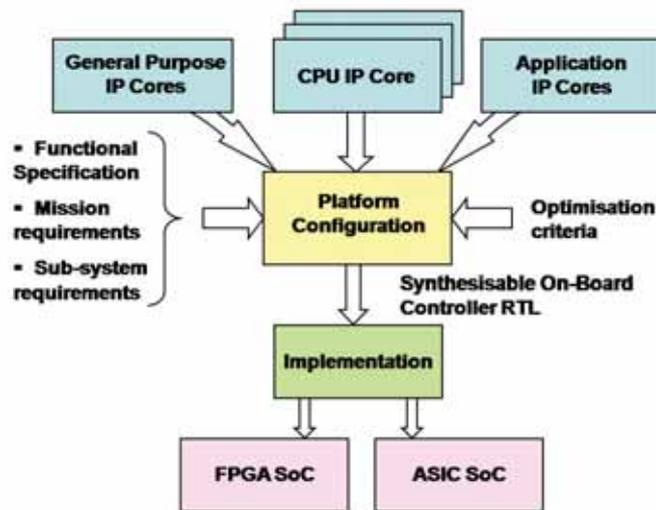

Figure 2: System-on-chip based on-board computing platform
The first SoC design aiming to miniaturise an on-board computer (OBC) was proposed by the author and Hans Tiggeler from SSTL. It was based on a modular design using soft Intellectual Property (IP) cores and made use of the LEON processor core, developed by the European Space Agency (ESA). The concept and an initial implementation were presented at the NASA conference on Military and Aerospace Applications of Programmable Logic Devices (MAPLD) in 2000. Following that, a SoC on-board computing platform concept, illustrated in Figure 2, was developed, aimed at a modular design of generic on-board controllers. The design flow is targeted at both Field Programmable Gate Arrays (FPGAs) and Application Specific Integrated Systems (ASICs) and includes optimisation and tailoring to specific subsystem and
undergo spectral decorrelation and are then fed to the lossless or lossy spatial compression blocks before being encrypted and sent to ground. Dr Guoxia Yu applied the reconfigurable SoC platform concept in Figure 2 to lossless image compression of panchromatic and multispectral images captured by the SSTL Disaster Monitoring Constellation (DMC). A lossless compression scheme based on an algorithm, recommended by the Consultative Committee for Space Data Systems (CCSDS), CCSDS-LDC, was implemented as a hardware accelerator, which was incorporated in a SoC design using the LEON-3 processor core (Figure 4).